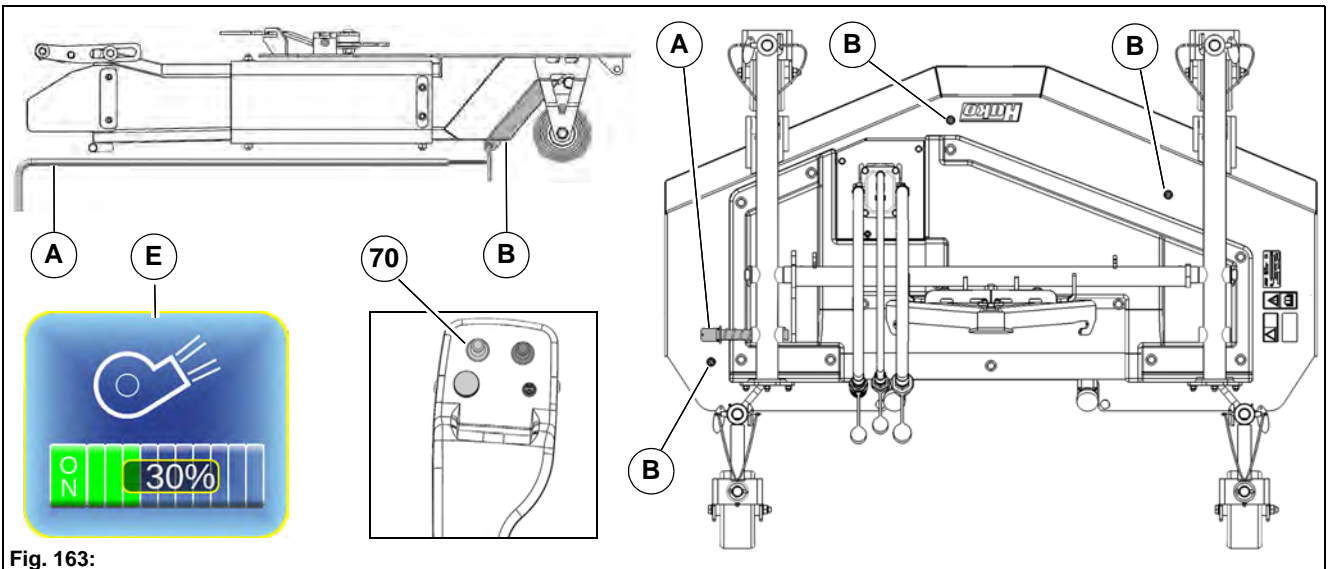

Fig. 163:
3. With the lance **Fig. 163-A** open the flap **Fig. 163-B** of the suction mouth and remove the coarse dirt. Lock the flap again with the lance.
4. Switch the vehicle on and switch on the suction fan **Fig. 163-E** in the working menu of the multifunctional display and let it run for one to two minutes.
6. Plug a water hose onto the hose coupling **Fig. 163-B** and let the mower run for one to two minutes.